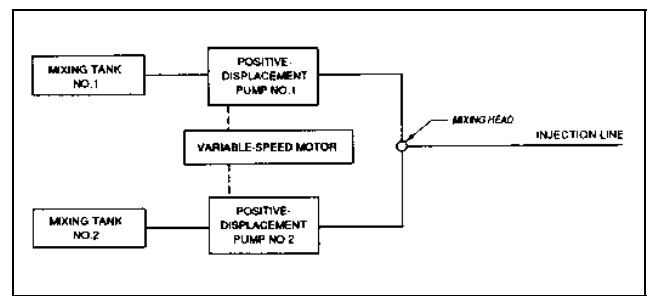

Figure 3-6. Variable-volume pump system or proportioning system
(1) This system (Figure 3-6) is used to vary gel times, pumping rates, and pumping pressures and allows one man to control all of these factors rapidly by mechanical means. The need for solution composition or concentration adjustment is eliminated during an application.